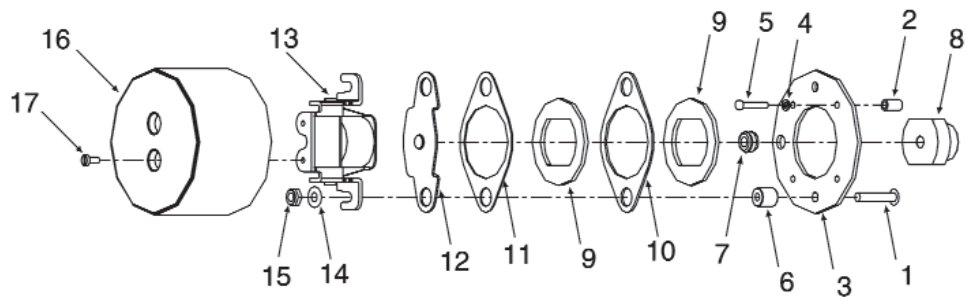

Figure 4 – Repair Parts Illustration
**NOTE:** Stationary disc (Ref. No. 10) is 0.060 in. thick, and must be in the location shown in Figure 4. Stationary disc (Ref. No. 11) is 0.030 in. thick, and must be located as shown.